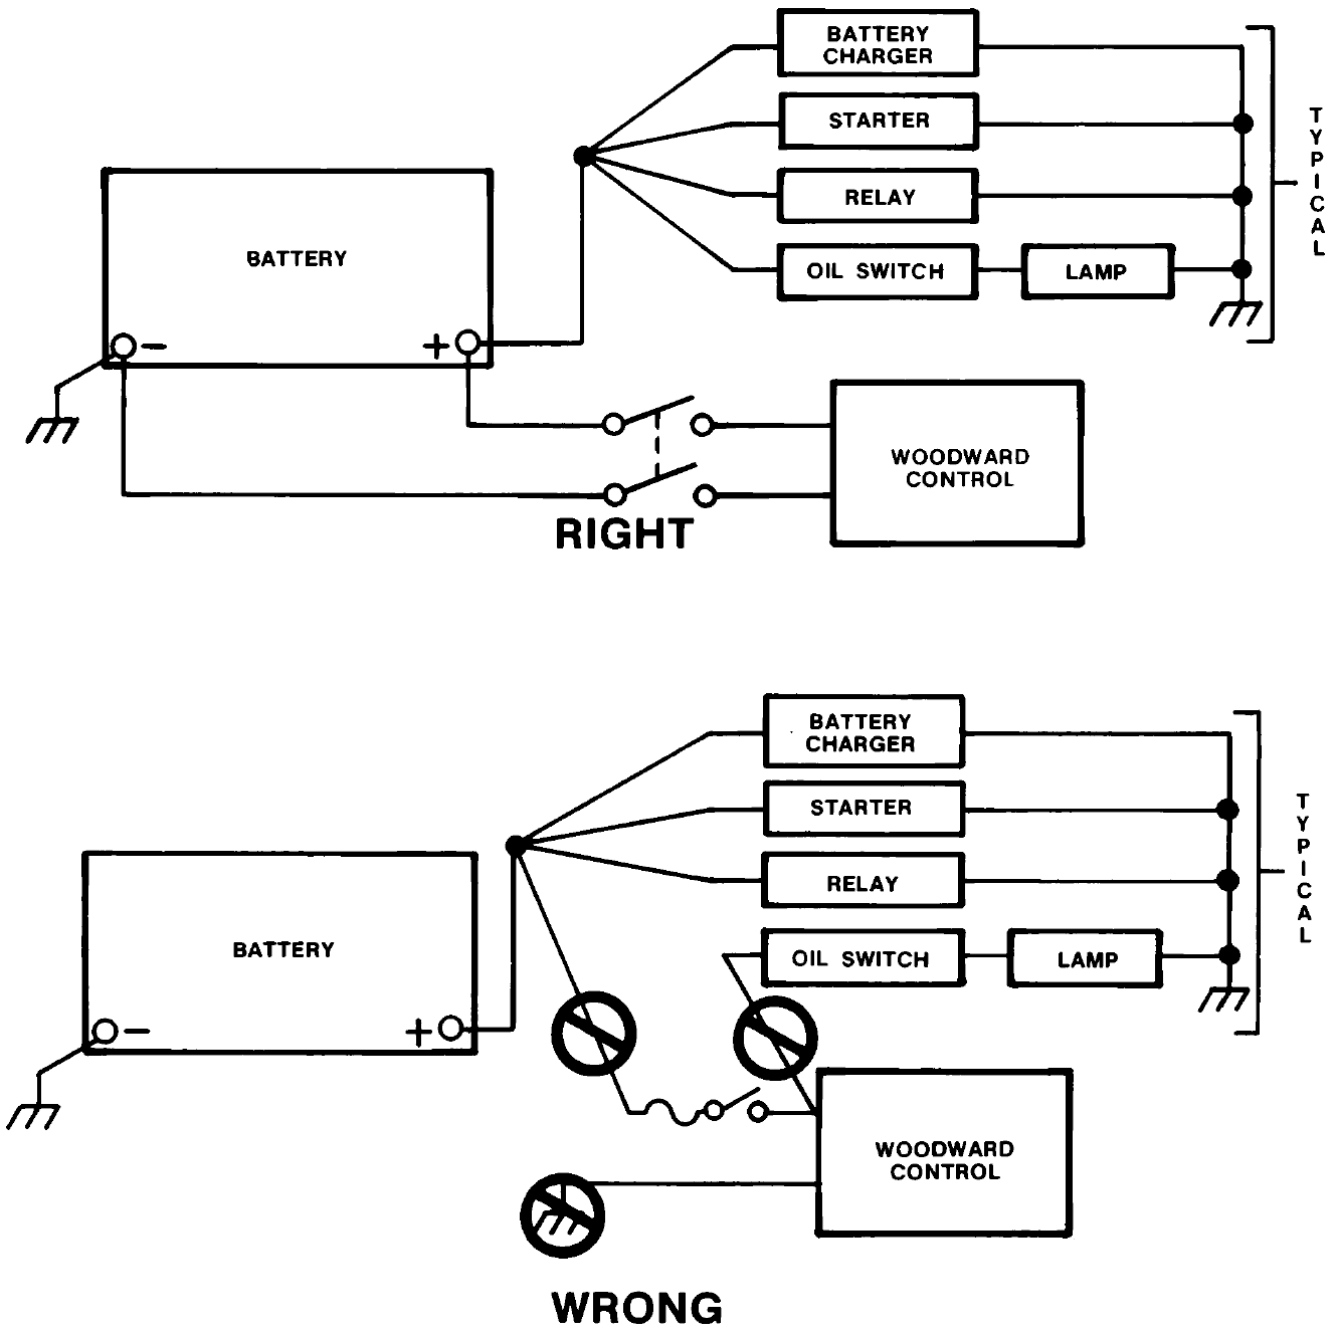

Figure 2-10. Correct and Incorrect Wiring to Battery
The battery connection to speed control terminals 1 and 2 must be directly from the terminals, not through distribution points. See Figure 2-10.
Connect power wires directly to the battery terminals. The speed control can be damaged if those wires are connected to distribution points. See Figure 2-10.
4. If the fuse or breaker opens after the prime mover has been running, the speed control may have been damaged. Turn governor power off and remove all wires from terminals 1, 2, 3, and 4. Measure the resistance from terminal 1 to 2 and from 3 to 4, if either is less than 100 ohms the speed control must be replaced. If the control is not damaged, then high voltage spikes from the battery or battery charger may be the problem. Verify that the battery connections are correct. Provide separate wires from the speed control to the battery terminals as shown in the top of Figure 2-10.